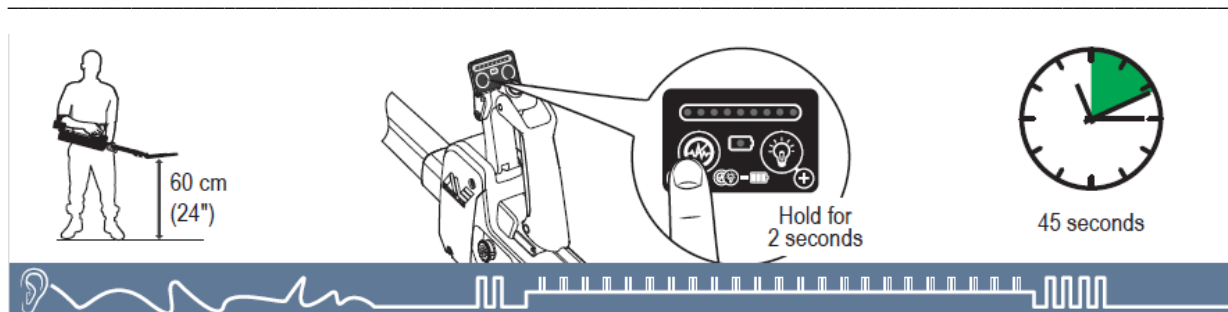

Figure 4: Noise Cancel
- **Press and hold** the Noise Cancel button for two (2) seconds and then release it. (Figure 4)